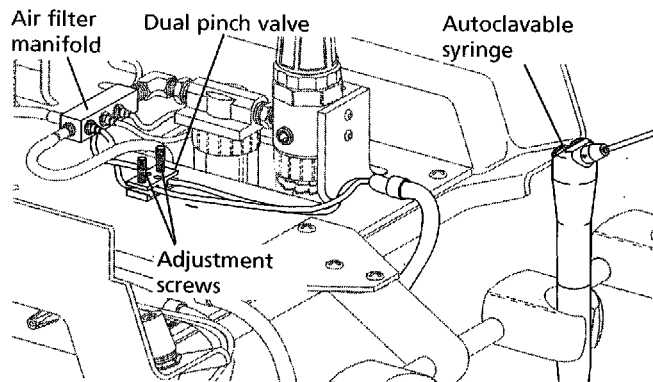

Figure 29. Adjust the system air pressure.
1. Adjust the water to achieve the desired rate of flow. Press the left (water) button (see Figure 29), then turn the water flow adjustment screw.
2. Press the air and water buttons at the same time for spray (see Figure 29), then turn the air flow adjustment screw to achieve the desired spray.